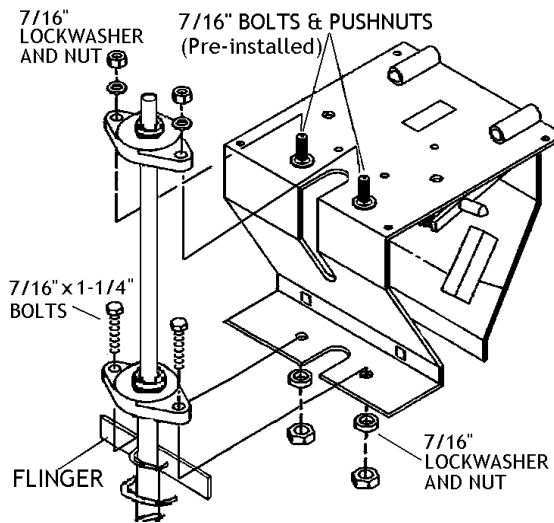

Figure 38 - Installing Down Auger on Carriage
103 Slide auger up through slot in carriage so top bearing rests on two pre-installed 7/16" x 1-1/2" bolts, which point up through top of carriage plate and are secured with push nuts. **Figure 38.**
104 Add 7/16" lockwashers and nuts to pre-installed bolts to bolt top bearing to carriage. Tighten using 11/16" wrench. **Figure 38.**
- 105 Slide bottom bearing down and bolt to carriage with 7/16" x 1-1/4" bolts and 7/16" lockwashers and nuts. Tighten using 11/16" & 5/8" wrenches. **Figure 38.**